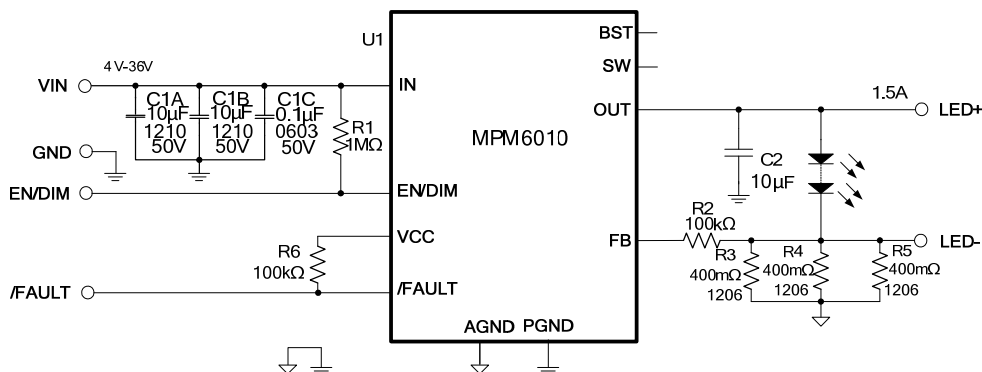

Figure 8: Typical Application Circuit for  $I_{LED} = 1.5A$
7) The recommended layout is based on Figure 8.